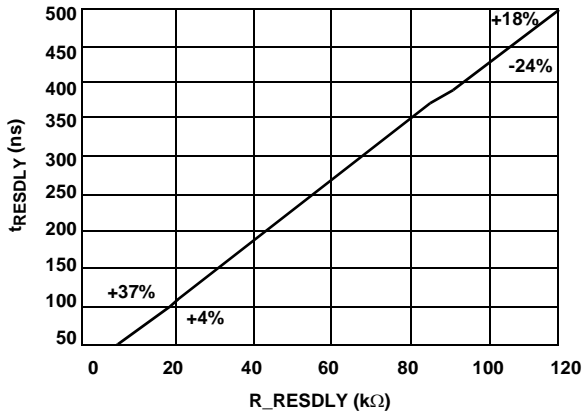

FIGURE 7. R_RESDLY vs RESDLY
- Figure 7 illustrates the relationship of the value of the resistor (R_{RESDLY}) and the resonant delay (t_{RESDLY}). The percentages in the figure are the tolerances at the two end points of the curve.